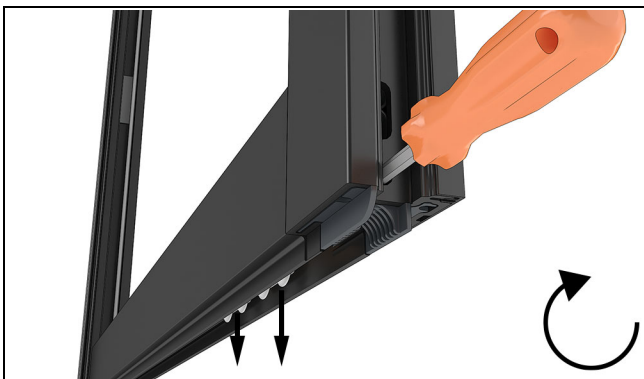
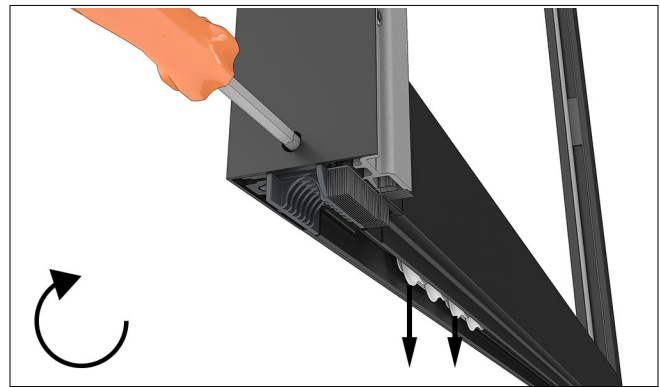

Figure 92
Figure 93
5. Insert a 5mm hex wrench into the adjustment hole(s) and raise or lower the rollers accordingly. Rotate the adjustment screw clockwise to raise the panels. See Figure 92 and Figure 93.